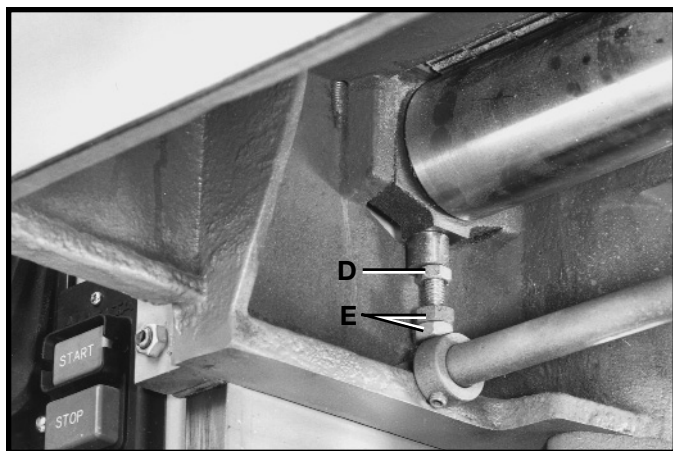

Fig. 24
4. If an adjustment to the infeed table roller is necessary, loosen locknut (D) Fig. 24, which is located under the table and below the infeed roller and rotate adjustment nuts (E) as necessary to raise or lower the height of the infeed roller. **NOTE:** It will be necessary to raise the table to gain access to the adjustment nuts. Tighten locknut (D) after adjustment is made.